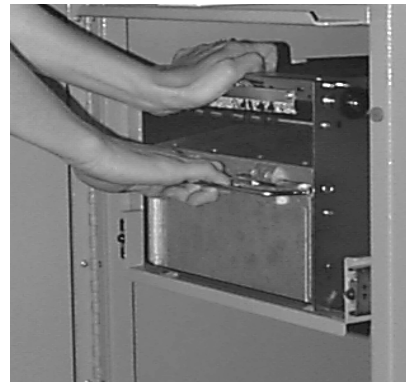

Figure 4-2. Removing a cassette from the Cash Dispenser.
- To remove the cassette, grasp the handle on the front of the Cash Dispenser mechanism with one hand while holding the mechanism in place with the other hand (See Figure 4-2) and pull sharply.